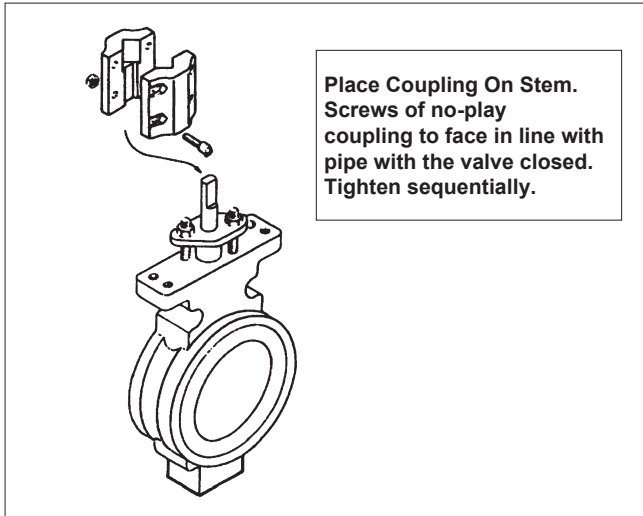

Figure 12.
3. Place the coupling onto the valve stem. If the valve has a two-piece "no-play" bolted coupling, assemble the coupling loosely on the valve stem. Use socket head cap screws and lock nuts (See **Figure 12**).